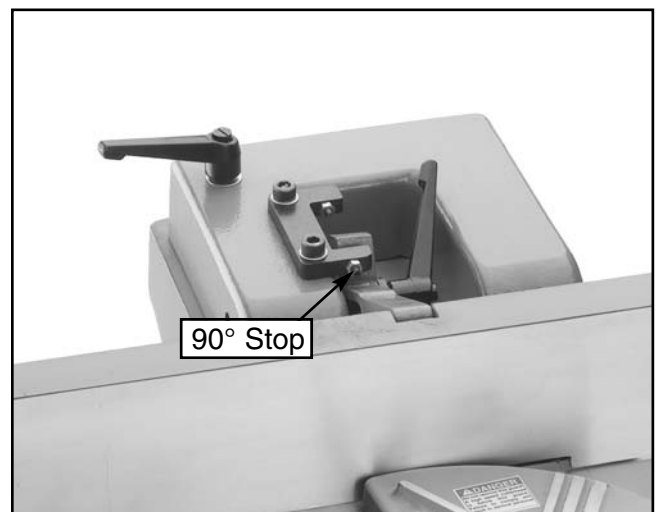

Figure 15. Setting the 90° stop.
2. While holding the fence adjusting handle, loosen the angle setting lock knob and the checknut on the 90° stop screw as shown in **Figure 15**. Turn the stop screw against the sliding bracket until the fence contacts the edge of the square evenly.